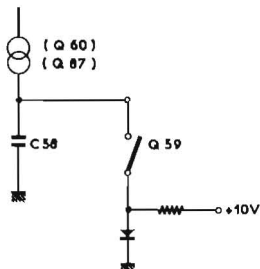

Fig. 9 : Ramp generator.
- 2.2 - a constant current generator (Q 60 PNP, Q 87 NPN, C 56). Transistor Q 59 is used as a switch (Fig. 9).